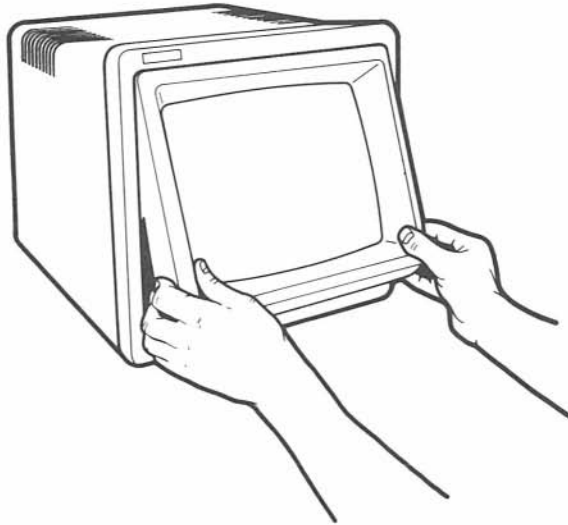

Figure 10-1. Removing CRT bezel.
2. Tilt your monitor screen up as far as it goes. Grasp the inner plastic frame by the lower corners, then pull it up and toward you in one even motion (Figure 10-1).